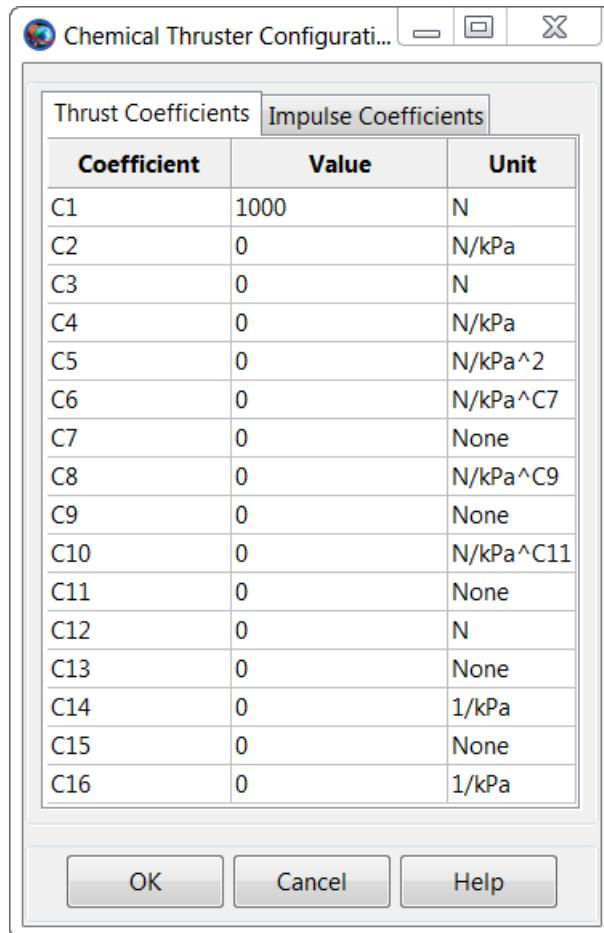

Figure 31. ChemicalThruster1 Thrust Coefficients
2. Click the **Edit Thruster Coef.** button to bring up the **ThrusterCoefficientDialog** box, shown in Figure 31. Replace the default **C1** coefficient value of 10 with 1000. Click **OK**.